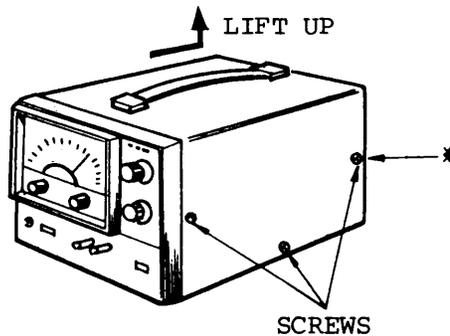

Fig. 10. How to remove case.
1. REMOVAL OF CASE (See Fig. 10)